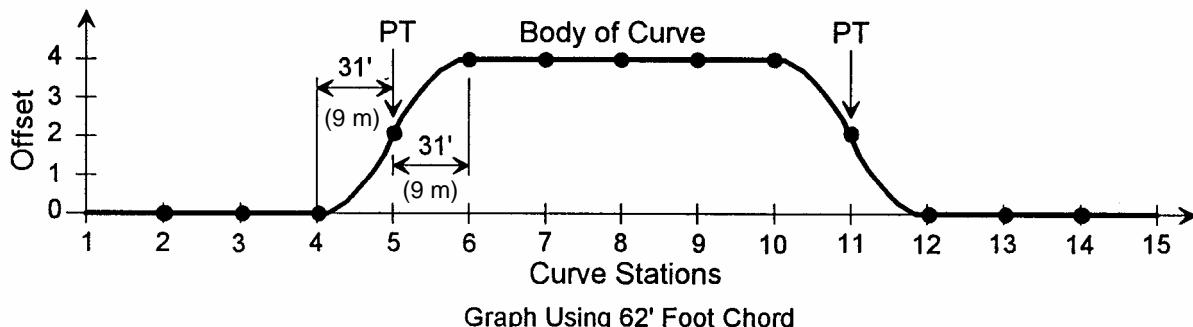

Figure A-5 Graph Using 62 Foot (19 m) Chord
To use the 62 foot (19 m) string to measure our sample curve, first place the string between stations 1 and 3, and measure the Offset at station 2 (this is at the mid-point of the string). The offset is zero (0) because both ends of the string are on tangent track. Then, the string is placed between stations 2 and 4, and the offset is measured as station 3. This pattern is repeated until station 15 is reached. The result of the measurements is the graph shown in Figure A-5.
As we move our measuring system along the track, plotting the measured degree of curvature, we get the graph as shown in Figure A-5. The heavy dots represent the Offset readings at 31 foot (9 m) intervals (at each curve station). Notice that at the Point of Tangent (PT) points, the apparent Offset is only 2 degrees, one-half that in the body of the curve. This is because when the center of our 62 foot (19 m) measuring system is at the PT point, the leading half of the system is in the curve, while the trailing half is on tangent track. This gives an Offset reading of one-half of what it would be if the entire system were within the curve. Also notice that if we would take readings continuously, just beyond station 4 the Offset reading begins to curve. With our example system, when the Center of our string is at station 4, the leading end is at station 5, the PT point. Therefore, as the system moves beyond this point, we get an Offset reading due to the fact that the leading end is entering the curve. And the graph of this reading is not straight, since the curve is not straight, but is curved.